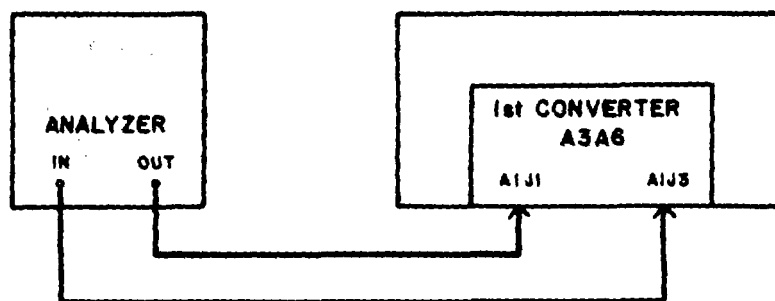

Figure 4-16. 1st Converter Alignment, Equipment Connections
4. Connect the RF Analyzer as illustrated in **Figure 4-16** and Tune the receiver to 450.0000 MHz. (P53 must be connected to A3A6J2, 1st Converter LO input).